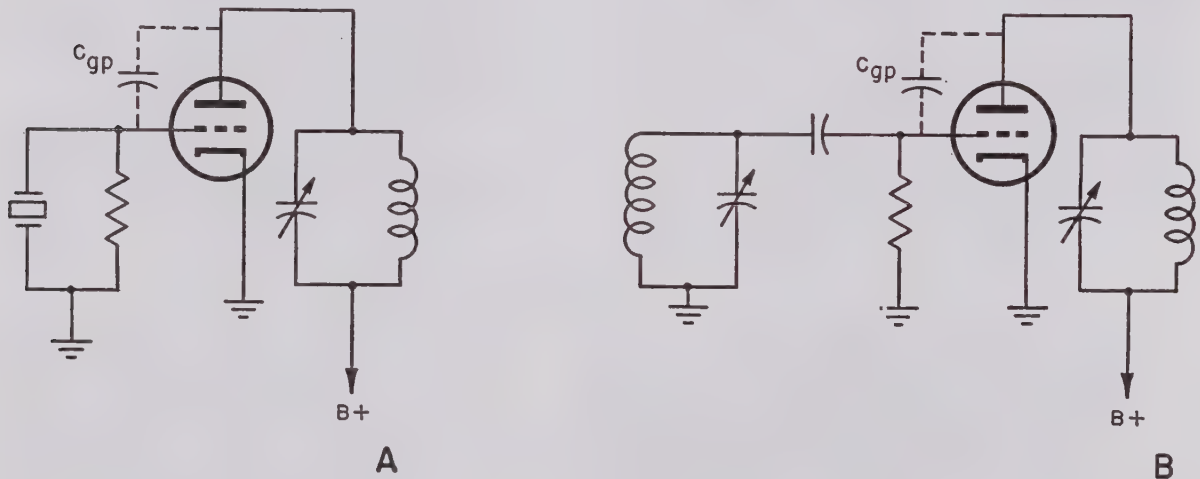

Figure 4. Crystal oscillator circuit and electrical equivalent.
c. CRYSTAL CIRCUIT. A of figure 4 shows a typical crystal oscillator circuit with feedback accomplished through the grid-to-plate capacitance of the tube. Electrically, the crystal is the equivalent of an L - C tuned circuit in a tuned-plate tuned-grid oscillator (B of fig. 4).